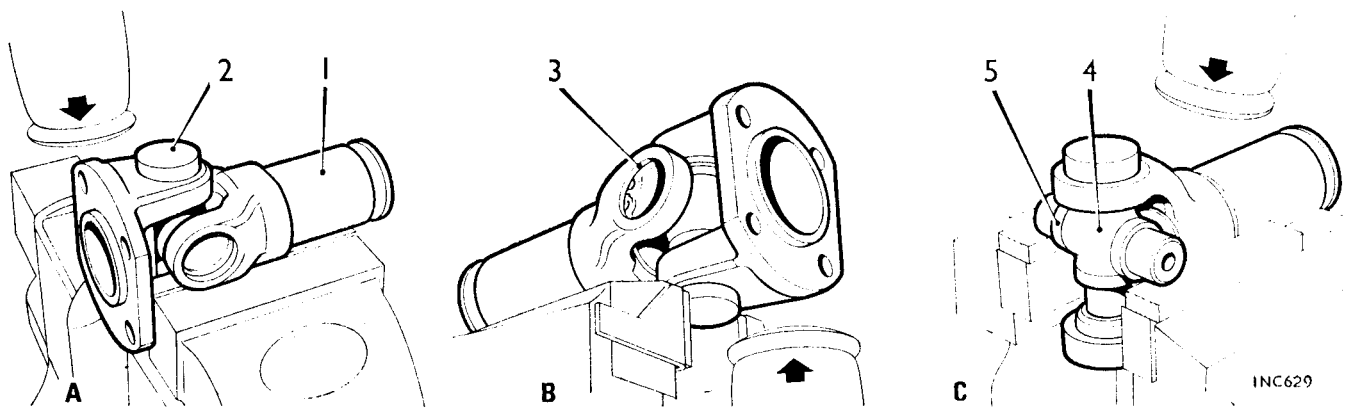

Fig. G.8
5. Hold the joint in one hand and support the underside of the yoke on the top of a vice. Tap the radius of the yoke lightly with a copper mallet, Fig. G.8, until the bearing race emerges from the yoke.
6. Turn the joint over and grip the bearing race in the vice. Tap the underside of the yoke until the bearing race is extracted, Fig. G.8.
8. Support the two exposed bearing trunnions on the top of the vice (with wood or soft metal packings between the vice and the bearing trunnions). Tap the top lug of the flange yoke as detailed in operations 5 and 6 to extract the two remaining bearing races, Fig. G.8.